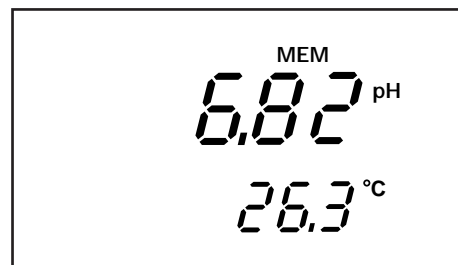

Figure 43
2. Press the **ENTER** key to recall the reading stored under that memory number. —See Figure 43.